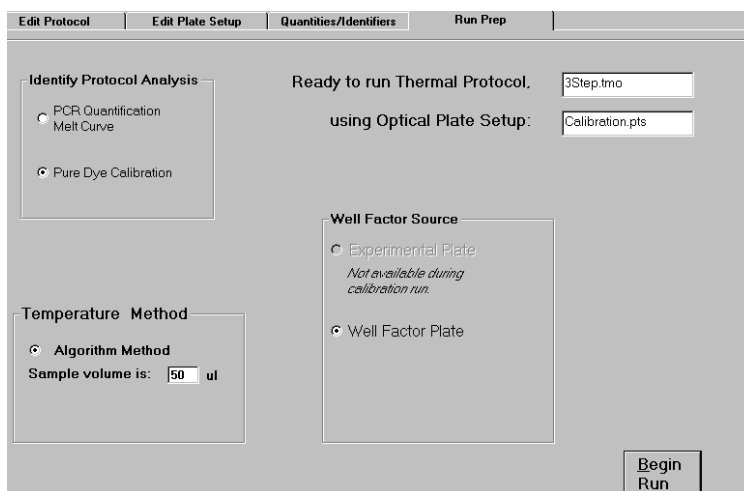

Fig. 2.1. Run prep tab.
8. In the **Run Prep** tab, confirm that the desired protocol and plate setup files are selected. Enter the reaction volume. Indicate the type of protocol (PCR Quantification/Melt Curve or Pure Dye Calibration) and the Well Factor Source, then click **Begin Run**. (Figure 2.1)
The better and easier source of well factors is the actual experimental plate. Well factors collected from the experimental plate are called **dynamic well factors**. The only requirement for using dynamic well factors is that *each monitored well must contain the same composition of fluorophores*. Within each dye layer the fluorophore must be present at the same concentration, however, all dye layers need not have the same concentration. If all the wells on a plate have, for example, 50 nM fluorescein, 100 nM HEX, 125 nM Texas Red and 200 nM Cy5, you can use dynamic well factors because the fluorophore composition is the same in every well. If some of the wells have 100 nM fluorescein and others have 200 nM fluorescein, then you cannot use dynamic well factors and you must use **external well factors**. Collection of dynamic well factors is a completely automated process initiated by clicking the Experimental Plate radio button in the **Run Prep** screen (see Figure 2.1).